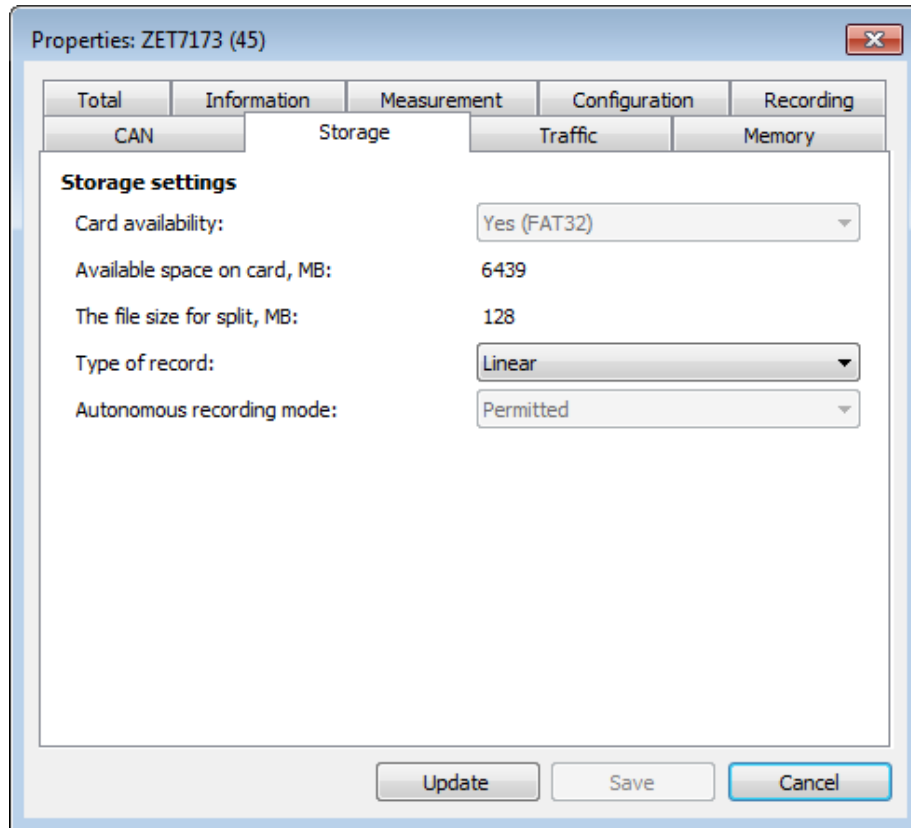

Figure 2.15 ZET 7173 “Storage” tab
- select “ Linear ” property in the field “ Type of record ” of the “ Storage” tab (Figure 2.15).